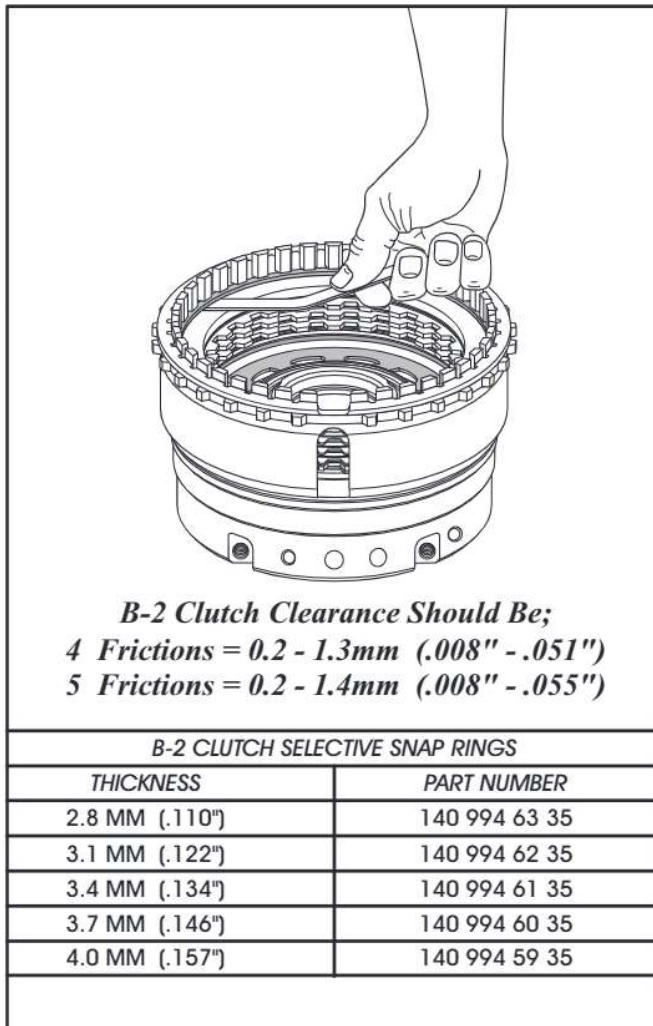

Figure 164
28. Measure B-2 clutch clearance using a feeler gauge between the selective snap ring and the backing plate, as shown in Figure 164.
29. B-2 clutch clearance will depend on how many friction plates are used in the pack. The proper clearances for each are listed in Figure 164.
30. Change the selective snap ring as necessary to obtain the proper clutch clearance. There are 5 different snap ring thickness' available and are listed in Figure 164.